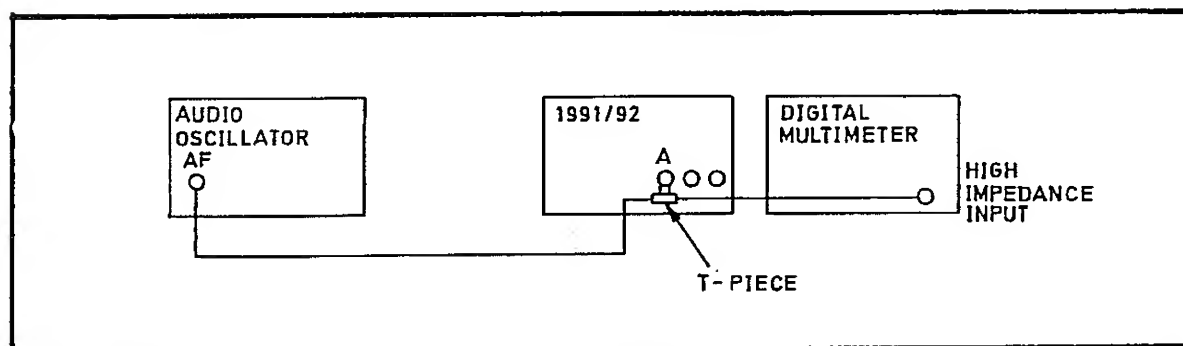

Fig 7.16 Connections for Channel A Sensitivity PVP
- (1) Connect the test equipment as shown in Fig 7.16.
- (2) Set the signal generator output to the frequencies shown in Table 7.5 in turn. Set the 1991/92 resolution to the corresponding value. Enable the 50 kHz filter.
- (3) At each frequency, determine the minimum input level to the 1991/92 which gives stable counting. Verify that this is not more than the level shown in the table.
- (4) Disable the 50 kHz filter. Disconnect the test equipment.